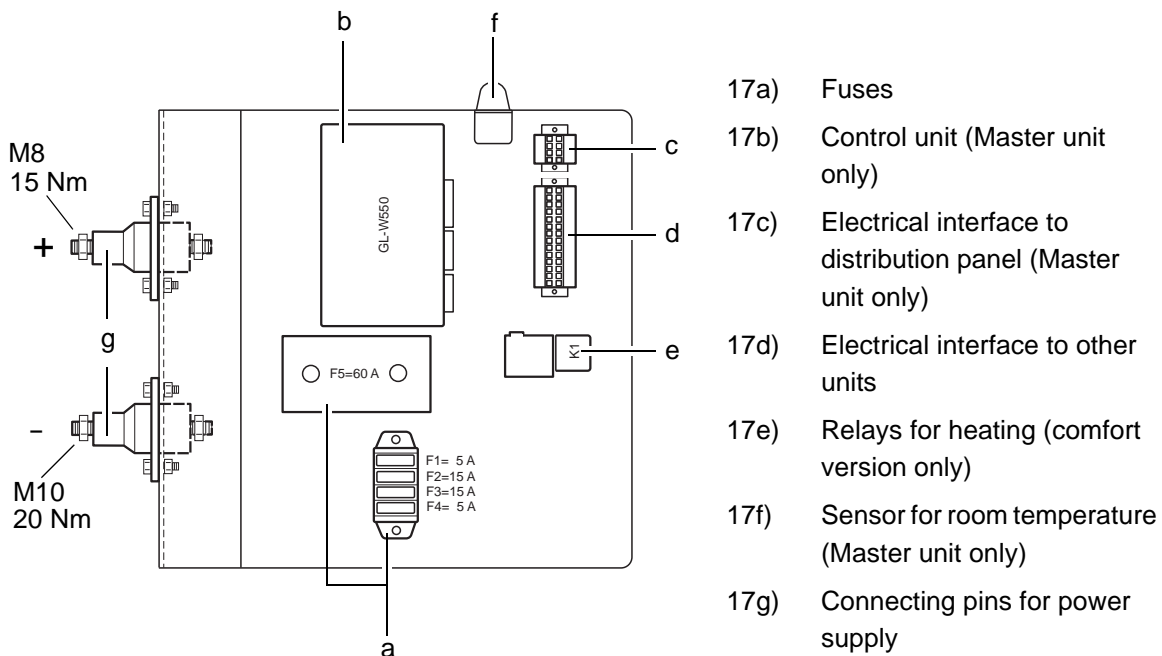

Fig. 2.2 Electrical plate (simplified)
- 17 - Electrical plate (see Fig. 2.2)